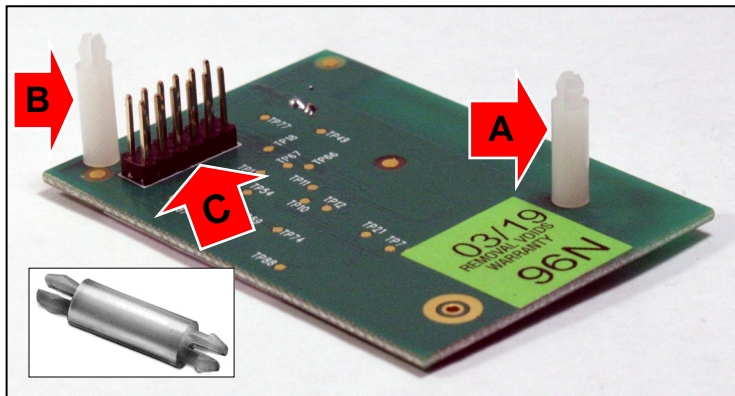

Fig. 1: Two Standoffs (red arrows "A" and "B") and Header Socket J1 (red arrow "C"). Standoff shown in bottom left image.
1. Insert the two plastic Standoffs (red arrows "A" and "B") into the bottom of the **ISEC-ZWAVE** (Fig. 1).